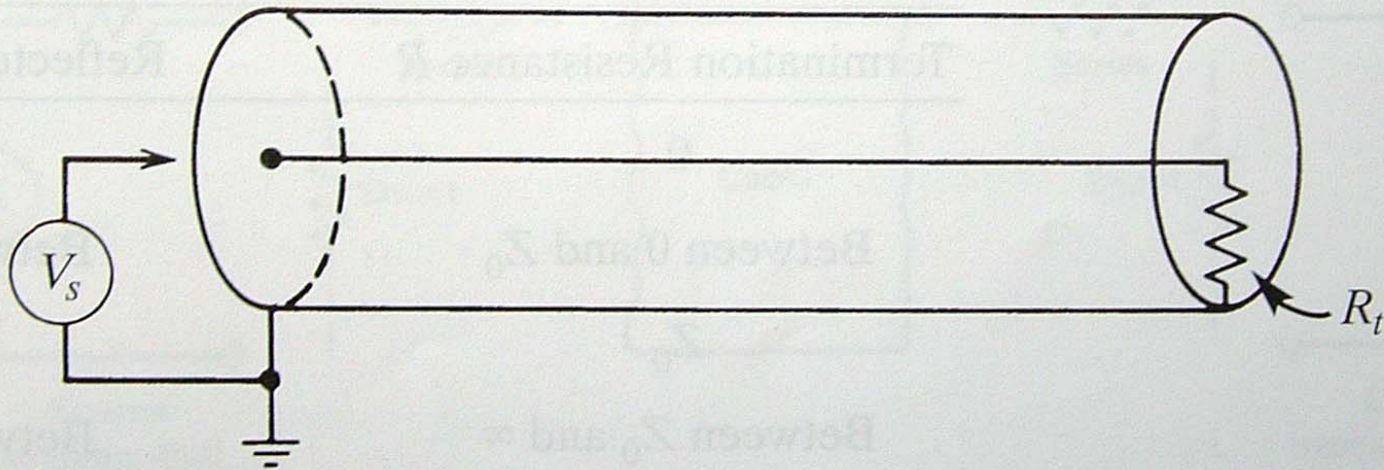

Figure 16.3 Application of a step voltage V_s to a coaxial cable terminated in R_t .
- Characteristic impedance of the cable – illustrated in Fig 16.3, is dependent on the dielectric material , diameters of the inner and outer (shield) conductors but independent of length